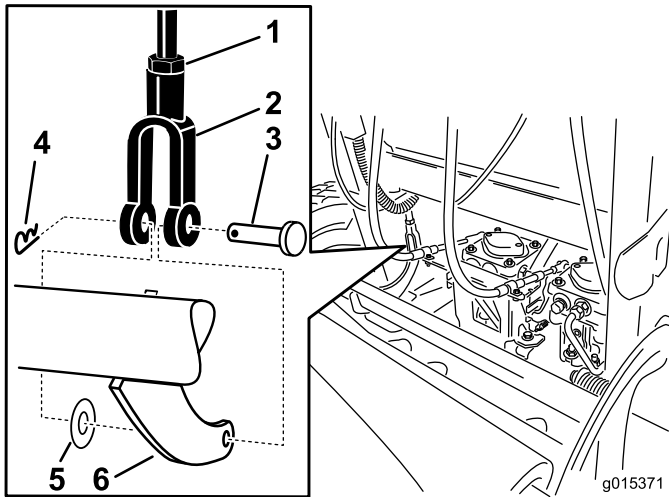

Figure 66
5. To adjust the brake, remove the hair pin cotter and clevis pin from the lower brake lever and yoke (Figure 66).
6. Loosen the jam nut (Figure 66).
7. Rotate the yoke. To tighten the brake, rotate the yoke up. To loosen the brake, rotate the yoke down (Figure 66).
8. Secure the yoke to lower brake lever with the hair pin cotter pin and clevis pin (Figure 66).
9. Tighten the jam nut (Figure 66).